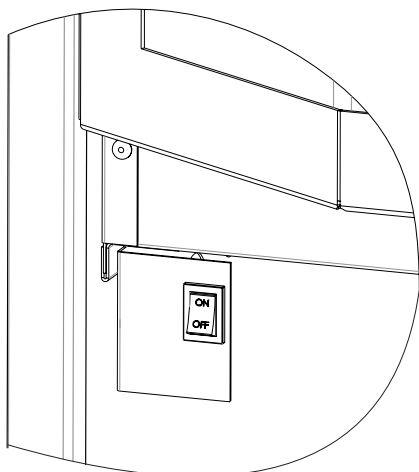

Figure 62
- B. Turn on the main electrical power to the fireplace and turn the main burner switch to the ON position. See Figure 62. Verify power is on by checking if there is power to the circuit board. If the unit has power, the power light will be illuminated.